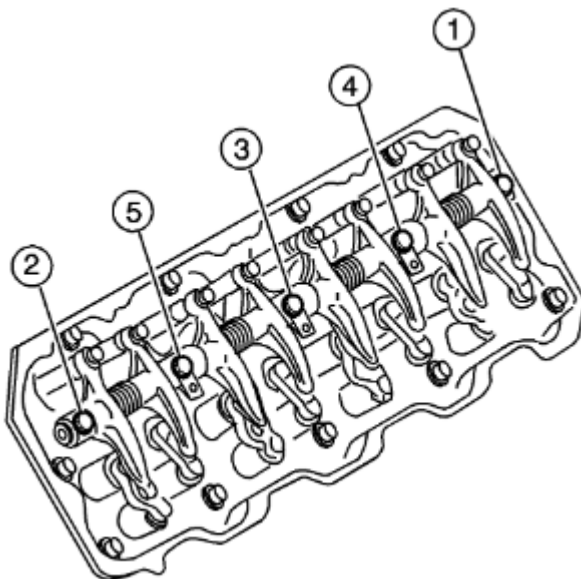

Fig. 60: Rocker shaft bolt removal sequence
- c) Remove the rocker arm shaft bolts in the sequence shown in figure 60. Remove the rocker arm shaft assembly.